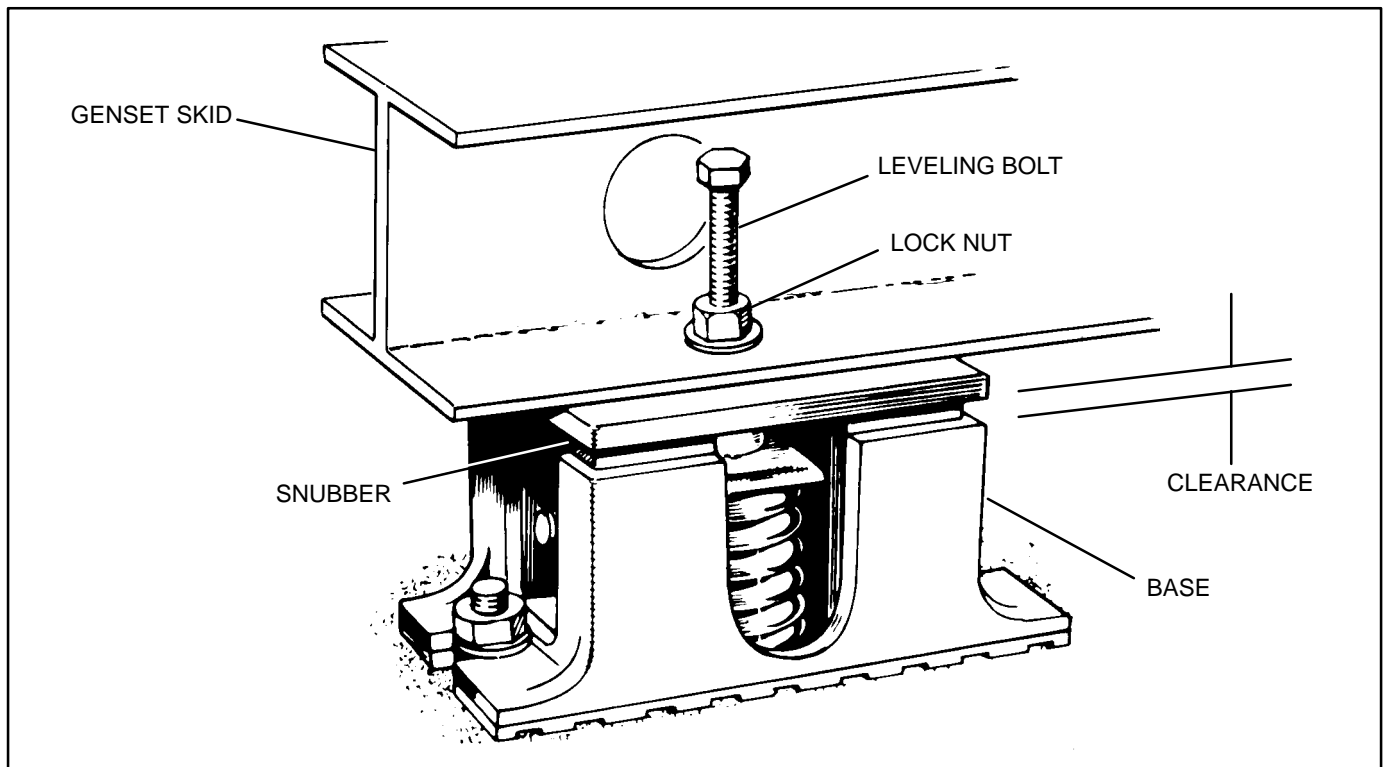

FIGURE 3-4. VIBRATION ISOLATORS
1. Place the vibration isolators (Figure 3-4) on the genset support structure. The isolators should be shimmed or grouted to ensure that all of the isolator bases are within 0.25 inch (6 mm) elevation of each other. The surface that the isolator bases rest on must also be flat and level.